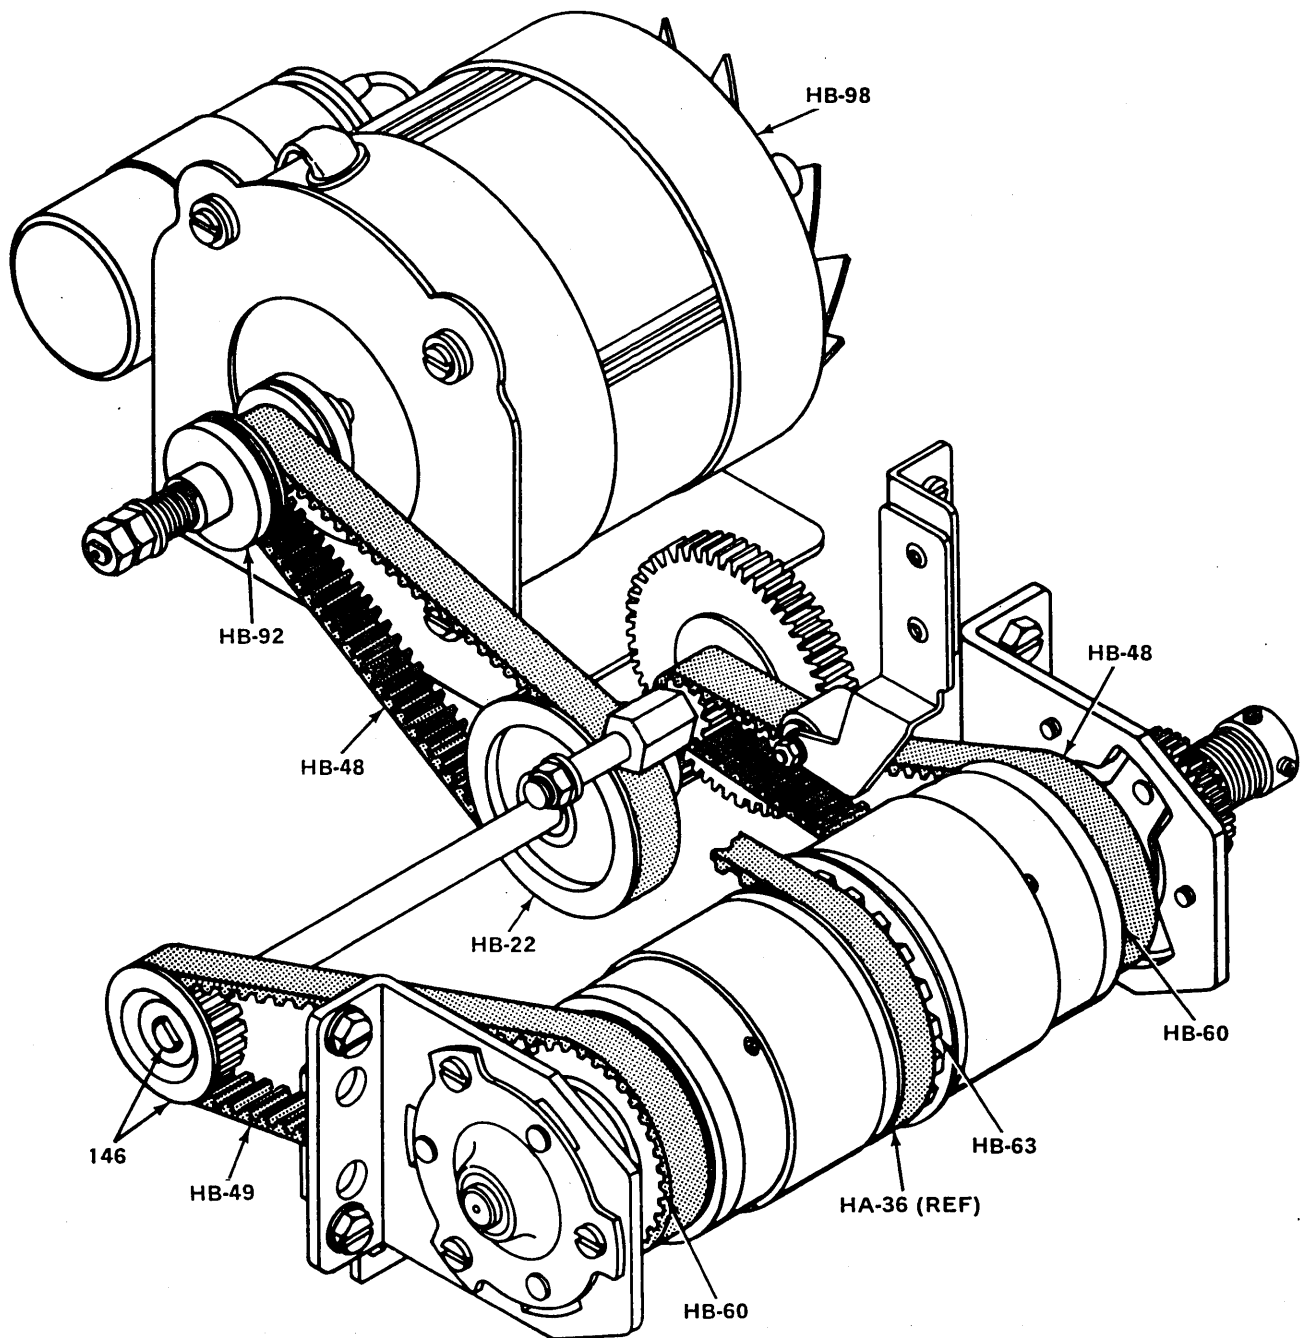

Figure 5-2. MAIN MOTOR DRIVE AND DRIVE BELT ARRANGEMENTS
C. OPERATING CONDITIONS, DRIVE MECHANISM (FIGURE 5-2)